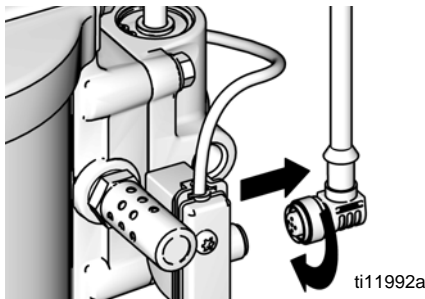

Fig. 3. Disconnect DataTrak
1. Unscrew cable from the back of the reed switch assembly. See Fig. 3.